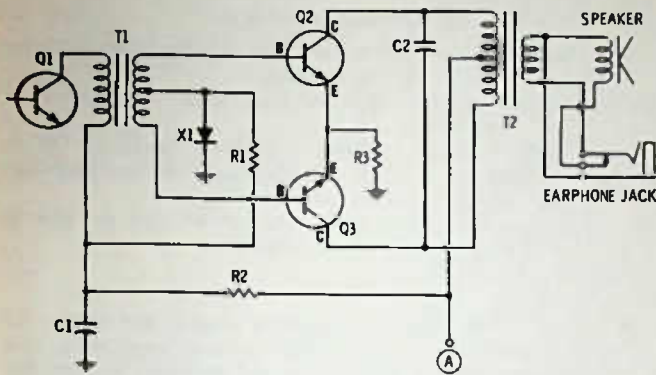

Fig. 12-16. Circuit for Questions 13 through 17.
13. In Fig. 12-16, the purpose of diode X1 is to
14. In Fig. 12-16, the purpose of R3 is to
15. In Fig. 12-16, the dc bias on Q2 as compared to Q3 is
16. In Fig. 12-16, the polarity of the voltage with respect to ground at point **(A)** should be
17. In Fig. 12-16, the purpose of C2 is